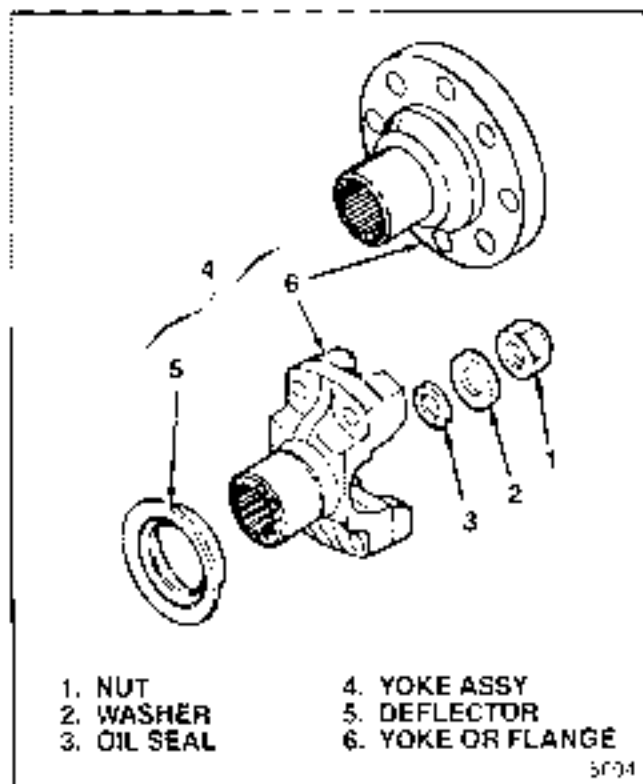

Figure 3-1. Rear Yoke Or Flange Group
**3-7. REMOVAL OF REAR YOKE OR FLANGE GROUP.** Position transfer case on work bench with rear or cover side up. Use wooden blocks under front to keep assembly level. Proceed as follows (see figure 3-1):
- a. Remove nut (1) and washer (2).
- b. Pull yoke or flange assembly (4) and remove oil seal (3).
- c. Press deflector (5) from yoke or flange (6) only if replacement is required.